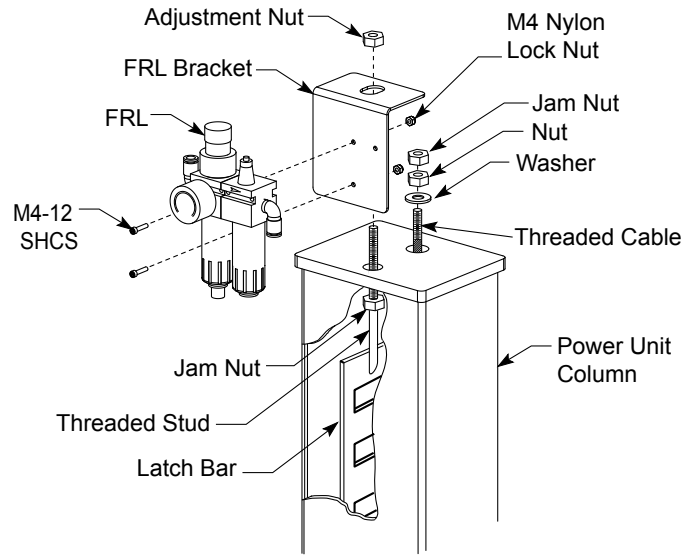

Fig. 7a
- B. Thread the jam nut down the threaded stud of the latch bar as far as possible. Place the latch bar into the back of the column. Thread the adjustment nut down the threaded stud until the nut and top plate are flush, Fig. 7a. Repeat for other columns.
- C. Place FRL Bracket on top of power unit column. Guide the threaded stud through the hole in the column top plate and bracket, Fig. 7a.